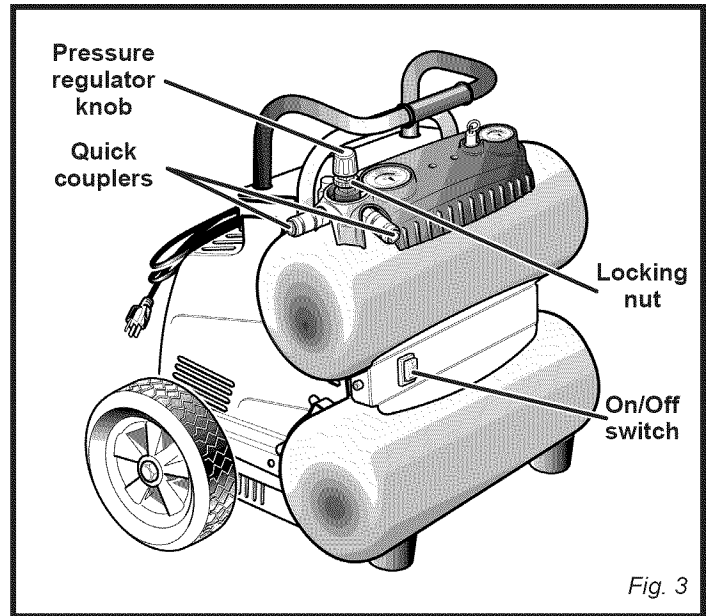

Fig. 3
- Insert the hose into the quick coupler already installed on the compressor (see fig. 3).
See figures 3 - 4.